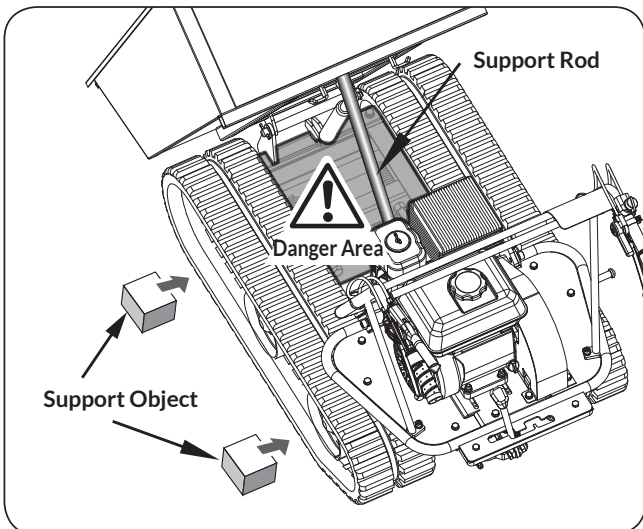

Figure 9a
2. Lift the machine and set it on blocks or supports rated for the weight of the machine so that the tracks are approximately 4" off the ground. (See **Figure 9a**)